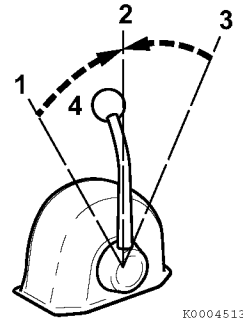

Figure 2
Use the throttle handle (Figure 2, (4)) to control acceleration and deceleration. Move the handle slowly.
2. When moving the handle between FORWARD (**Figure 2, (1 or 3)**) and REVERSE (**Figure 2, (3 or 1)**), bring the handle to NEUTRAL (**Figure 2, (2)**) and pause before slowly shifting to the desired position. Never shift abruptly from FORWARD to REVERSE or vice versa.